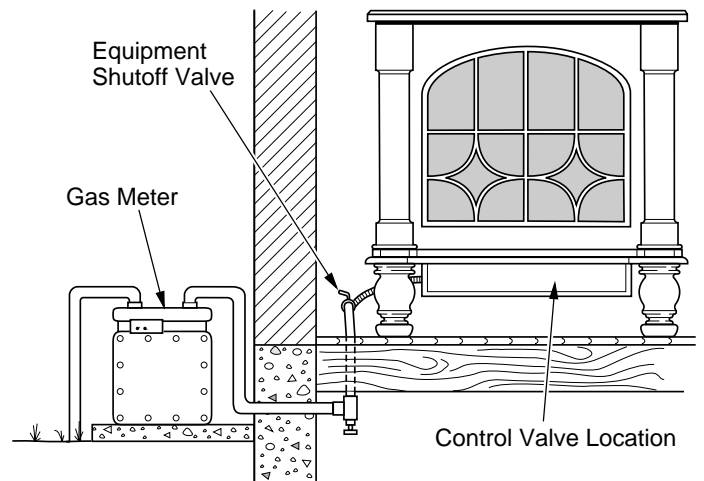

Figure 20 - Checking Gas Joints
4. Check all joints from equipment shutoff valve to control valve (see Figure 20). Apply noncorrosive leak detection fluid to gas joints. Bubbles forming show a leak.